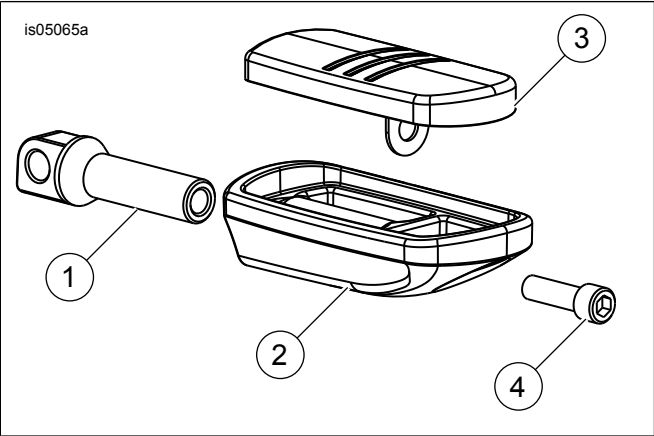

Figure 2. Service Parts: Footpeg Kit
See Figure 2 and Table 1.
See Figure 2. When installing the footpeg-support mount (1) on the motorcycle footpeg support, the rounded edge of the footpeg-support mount must be positioned upward.
See Figure 2. When replacing the footpeg support mount (1), either replace the screw (4), or apply LOCTITE 243 MEDIUM STRENGTH THREADLOCKER AND SEALANT